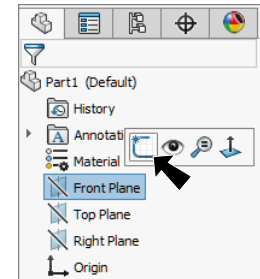
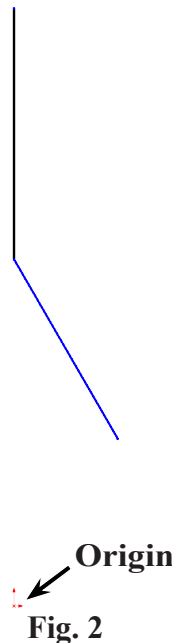

Fig. 1
Fig. 2
Step 2. Click **Front Plane**  in the Feature Manager and click **Sketch**  from the context toolbar, **Fig. 1**.
Step 3. Click **Line**  (L) on the Sketch toolbar.
Step 4. Sketch a line starting directly above the Origin  but do not sketch the line to the Origin, **Fig. 2**. Sketch a second line from bottom endpoint of first line at angle to the right. Do not bring the angle line down to Origin.